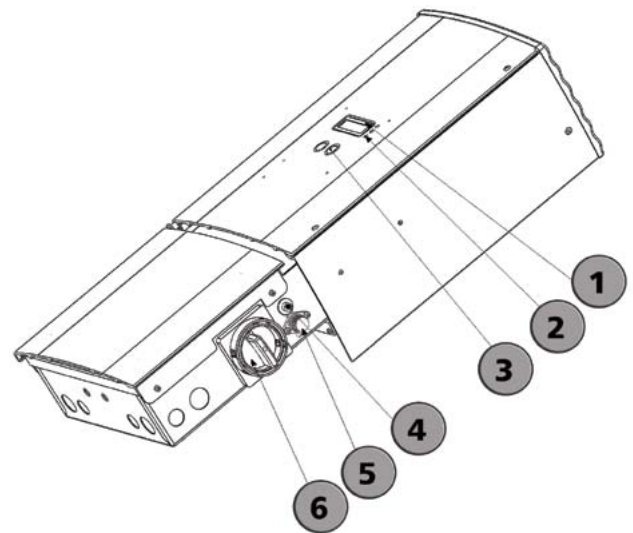

Figure 4.1: Overview blueplanet
To disconnect the inverter from the photovoltaic generator, turn the internal DC/AC disconnect switch on the right side of the connection box from the ON (1) position to the OFF (0) position (see Fig. 4.1). The ON (1) position is pointing up and the OFF (0) position is pointing toward the front.